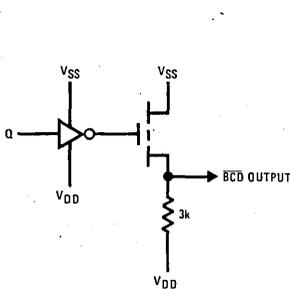
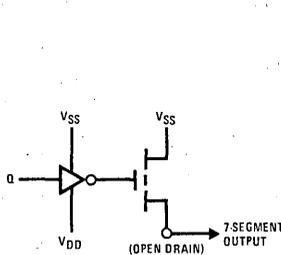
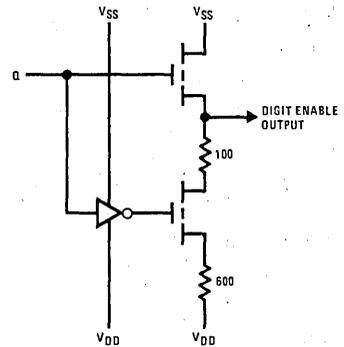
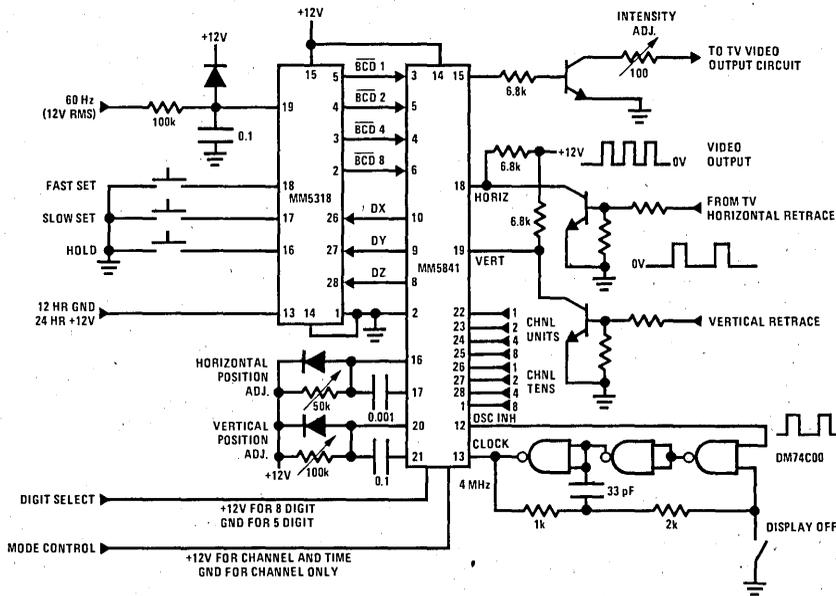

FIGURE 3. BCD Output Circuit
FIGURE 4. 7-Segment Output Circuit
FIGURE 5. Digit Enable Output Circuit
FIGURE 6. TV Channel and Time Display
**50 or 60 Hz Drive:** This input is applied to a Schmitt Trigger shaping circuit which provides approximately 5V of hysteresis and allows using a filtered sinewave input. A simple RC filter such as shown in *Figure 6* should be used to remove possible line voltage transients that could either cause the clock to gain time or damage the device. The shaper output drives a counter chain which performs the timekeeping function.
**Output Circuits:** *Figure 3* illustrates the circuit used for the BCD outputs. *Figure 4* shows the circuit used for the 7-segment outputs. The digit enables output circuit is shown in *Figure 5*. *Figures 6 and 7* illustrate typical applications for the MM5318.